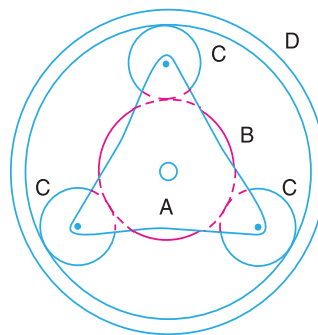

Fig. 13.41
12. In an epicyclic gear train of the 'sun and planet type' as shown in Fig. 13.41, the pitch circle diameter of the internally toothed ring D is to be 216 mm and the module 4 mm. When the ring D is stationary, the spider A , which carries three planet wheels C of equal size, is to make one revolution in the same sense as the sun wheel B for every five revolutions of the driving spindle carrying the sunwheel B . Determine suitable number of teeth for all the wheels and the exact diameter of pitch circle of the ring.